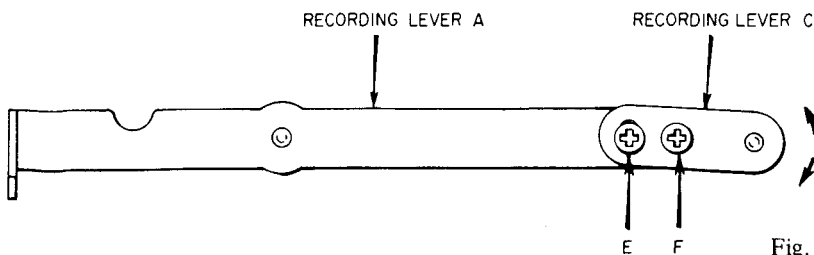

Fig. 6
- 2) If proper adjustment cannot be made by positioning the Pre-Amp. P.C. Board, replace present recording lever with recording levers A and C as shown in Fig. 6. Loosen Screws "E" and "F" and adjust angle of recording lever C.